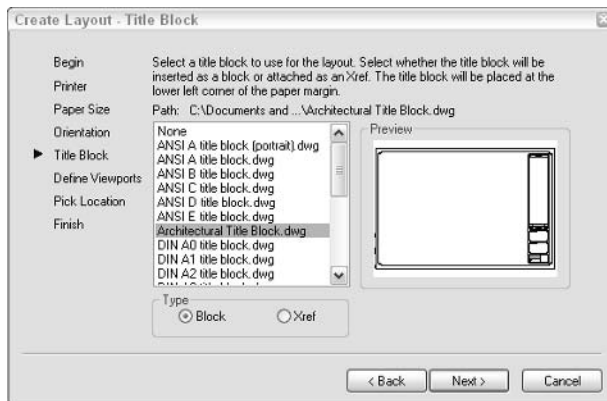

Figure 5-10:
6. **Select a title block or None (see Figure 5-10), and then click Next.**